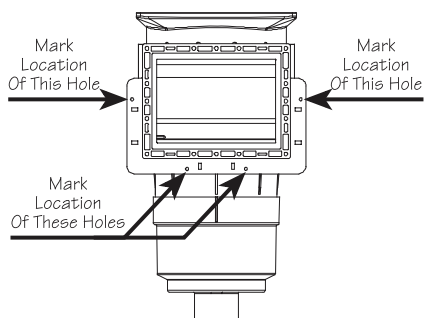
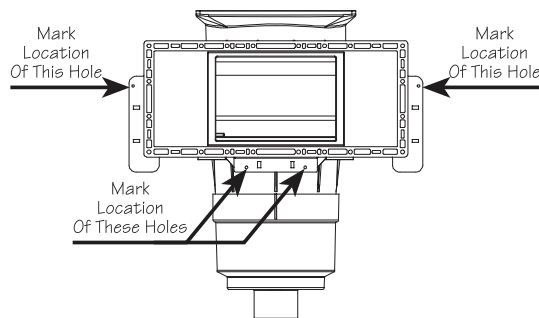

FIGURE S-1
FIGURE W-1
3. Slide the face of the skimmer through the opening and mark the location of the holes in the three (3) flanges. (see Figure S-1 for Standard throat or Figure W-1 for Wide Throat)